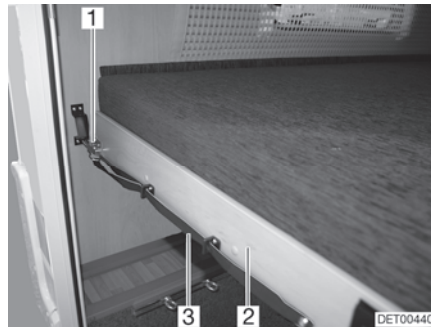

Fig. 76 Bunk bed (rear)
- Pull on the loop (Fig. 76,3) and release the latch (Fig. 76,1).
- Pull the slatted frame (Fig. 76,2) together with the mattress forward until it latches in place.